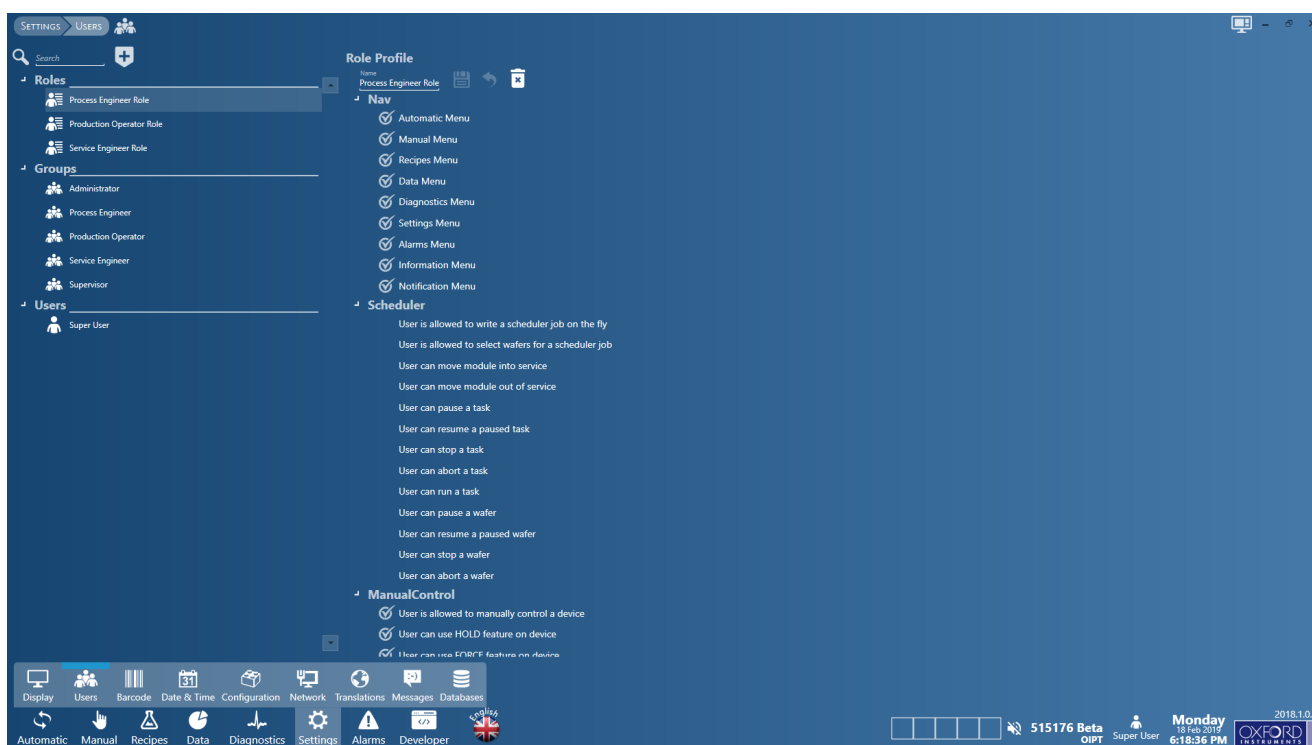

Figure 5-36 Role Profile
- 1 Click on the name of the role. The Role Profile is displayed, see Figure 5-36.